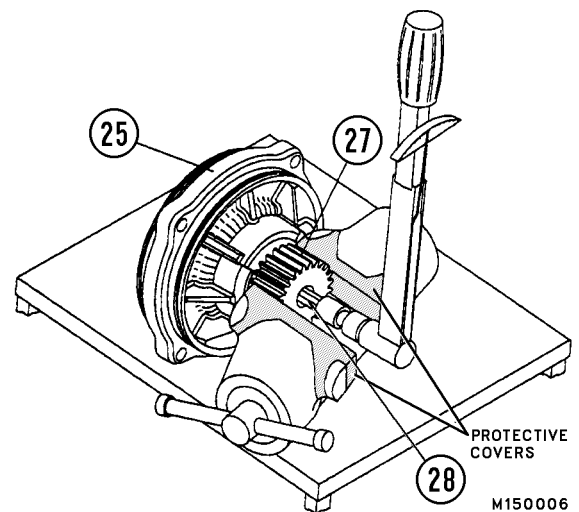

FIGURE 15-7.
8. Position the intermediate gear case on a bench in a copper faced vise so that the intermediate pinion (27, Figure 15-7) is secured in the jaws of the vise. Tighten the vise only enough to hold the intermediate pinion securely.
9. Loosen the intermediate pinion retaining screw (28) 1 1/2 turns only. **Do not remove.**